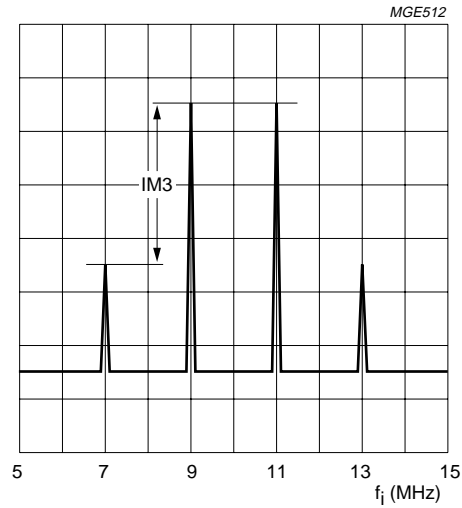

Fig.3 IM3 definition.
7. The specified intermodulation distortion is the minimum value obtained from intermodulation measurements in the I and Q channels. Intermodulation is measured with two sine wave signals at $f_{i(RF)} = 79$ MHz and $f_{i(RF)} = 81$ MHz with an amplitude of 67 dB μ V for each tone. The difference in level between the converted carriers (9 MHz and 11 MHz) and the intermodulation products after frequency conversion (7 MHz and 13 MHz) is defined as IM3 (see Fig.3).